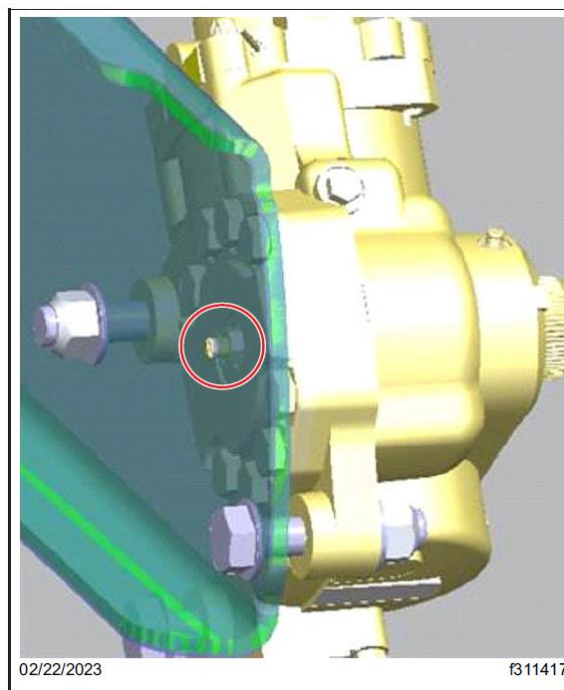

Fig. 1, Relief Hole Location on the Frame Rail
3. Inspect the inner side of the left-hand side frame rail web surface, at the steering gear mounting for a relief hole. If there is a relief hole on the frame rail at the location indicated in Fig. 1, no further action is required.